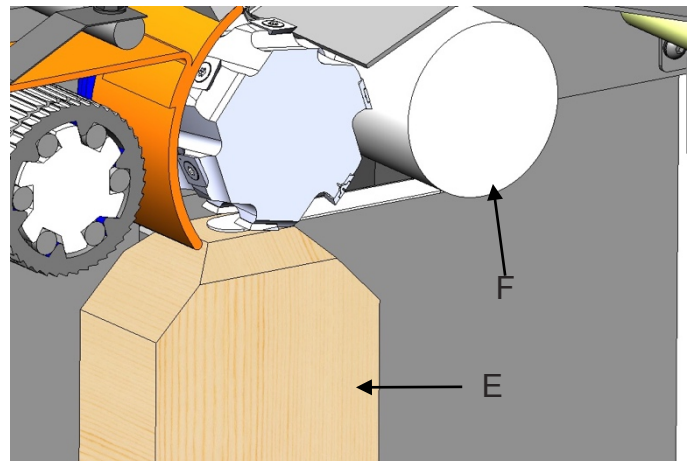
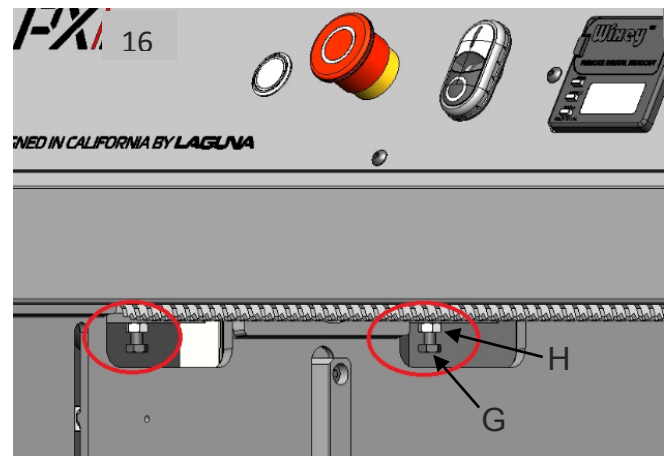

Figure 20: Outfeed Roller Adjustment
Figure 21: Outfeed Roller Adjustment
3. Remove feeler gauge and place wood block (Fig.20, E) under the left side of outfeed roller (Fig. 20, F). The top of wood gauge should just contact the outfeed roller. If it doesn't, loosen jam nut (Fig. 21, H) and turn the adjusting screw (Fig. 21, G) to raise, or lower the out-feed roller until it contacts wood gauge.